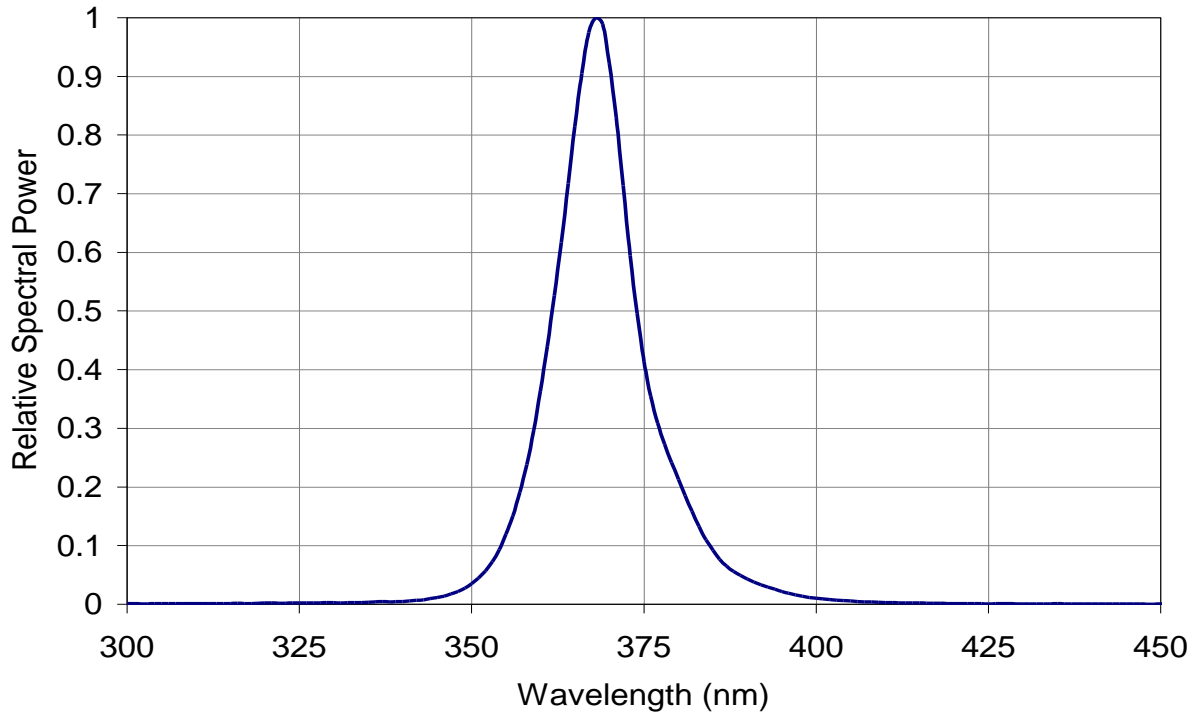

Figure 5: Typical relative spectral power vs. wavelength @ $T_c = 25^\circ\text{C}$
- Solder conditions per JEDEC 020D. See Reflow Soldering Profile Figure 5.